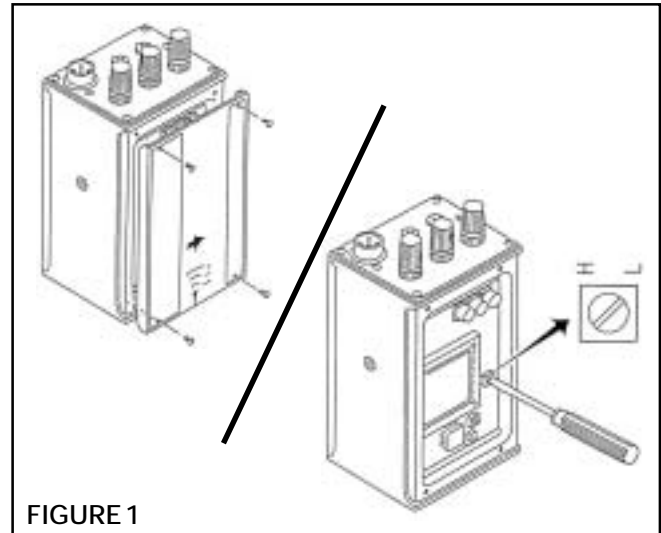

FIGURE 1
1. Remove the selector switch cover to access the High/Low switch (See Figure 1).